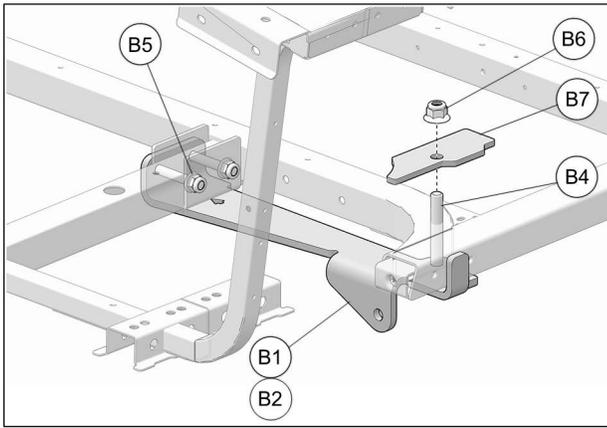

Fig. 10
8. Slide cover plate (**B7**) over M10x70mm bolt (**B4**) and secure plate to vehicle frame with M10 nut (**B6**). Tighten M8 nuts (**B5**) to 50 Nm [37 lb•ft] and M10 nut (**B6**) to 70 Nm [52 lb•ft]. See Fig. 10